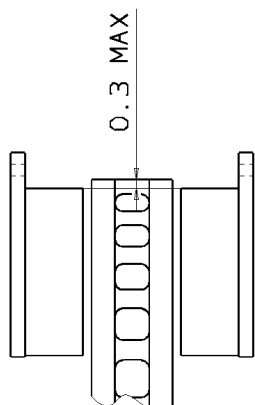
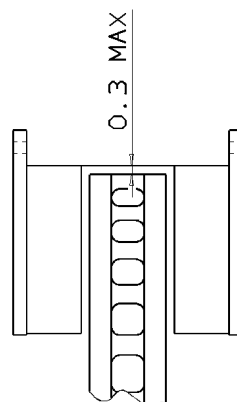

Fig. 3
Fig. 4
- d. The disc and pads protrusion must be 0,3 mm MAX (see Fig. 3 and Fig. 4).